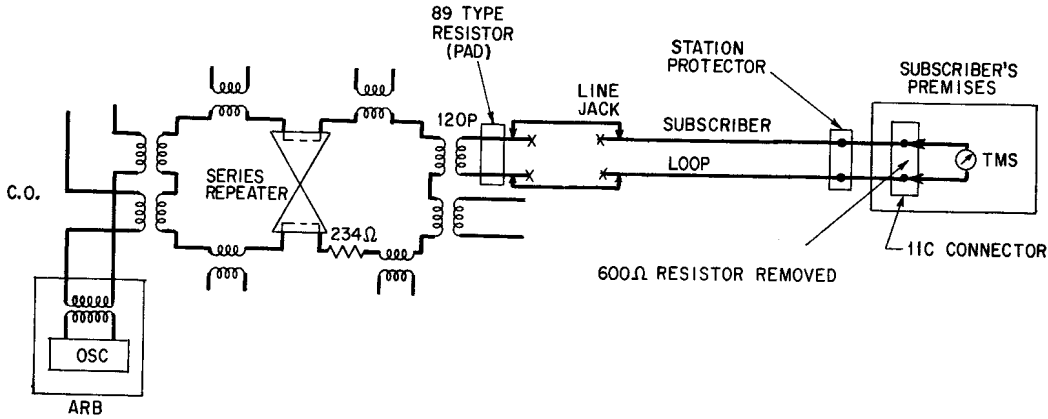

Fig. 8 — Frequency Response Measurement of Over-All System
**6.06** The procedure for making an over-all frequency run from the end of the loop to ARB headquarters is outlined in Chart III. The test circuit is shown in Fig. 8.
4	Connect test equipment as shown in Fig. 8.